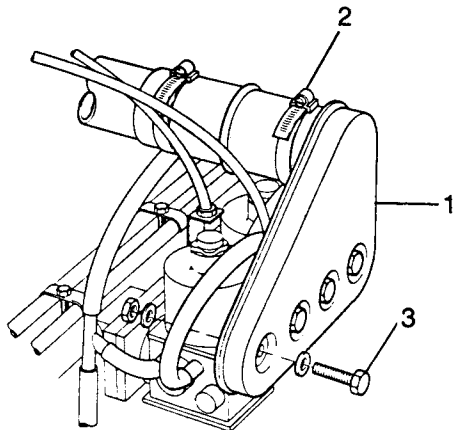
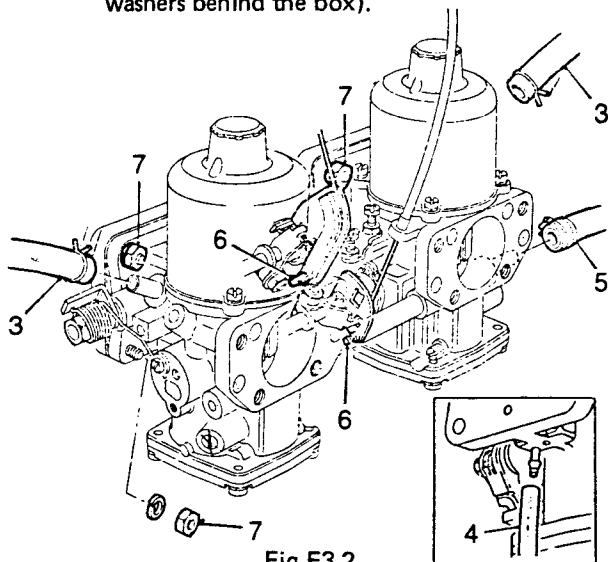

Fig F3.1
Fig F3.2
(2) Refer to Fig F3.1. Remove the air intake box (1) by disconnecting the air inlet hose (2) and removing the four bolts (3) holding the box to the carburetors. (The bolts have loose nuts and washers behind the box).
(3) Refer to Fig F3.2. Disconnect the engine purge hoses (3) from the carburetors.
(4) Disconnect the ignition vacuum advance pipe (4) from the rear carburetter.
(5) Disconnect the fuel feed pipe (5) to the rear carburetter.
(6) Release the throttle and choke cables (6).
(7) Remove the eight nuts and spring washers (7) to release the carburetors.
(8) Remove the carburetors together with the throttle cable abutment bracket distance plate for the front carburetter, distance pieces and gaskets, keeping the carburetors together so as not to disturb the interconnecting links.
(5) Fig F3.2 still applies. Using new gaskets replace the carburetters and fit the eight nuts and spring washers (7) to the studs.
(6) Refit the throttle and choke cables (6).
(7) Reconnect the fuel feed pipe to the rear carburetter (5).
(8) Reconnect the ignition vacuum advance pipe (4) and the engine purge hoses (3).
(9) Replace the air intake box and air inlet hose (Fig F3.1).
(10) Reconnect the battery.